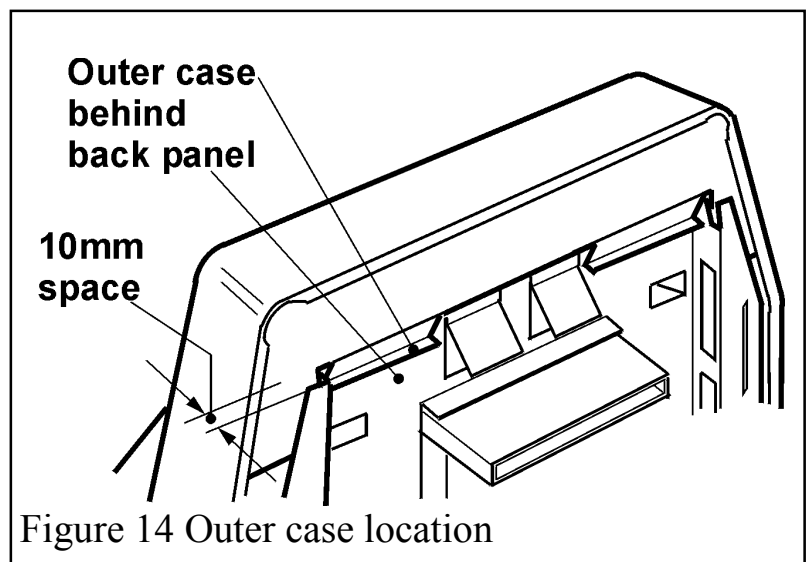

Figure 14 Outer case location
6.1.2 Refit the outer case. Make sure back of the outer case is located behind the main face of the engine back panel. The vertical side extensions of the back panel should project 10mm behind the back of the outer case. See figure 14.
7.2.5 Replace in the reverse order. Make sure back of the outer case is located behind the main face of the engine back panel. The vertical side extensions of the back panel should project 10mm behind the back of the outer case. See figure 14 in the installation section. Make sure that the coal is not dislodged when refitting the case.